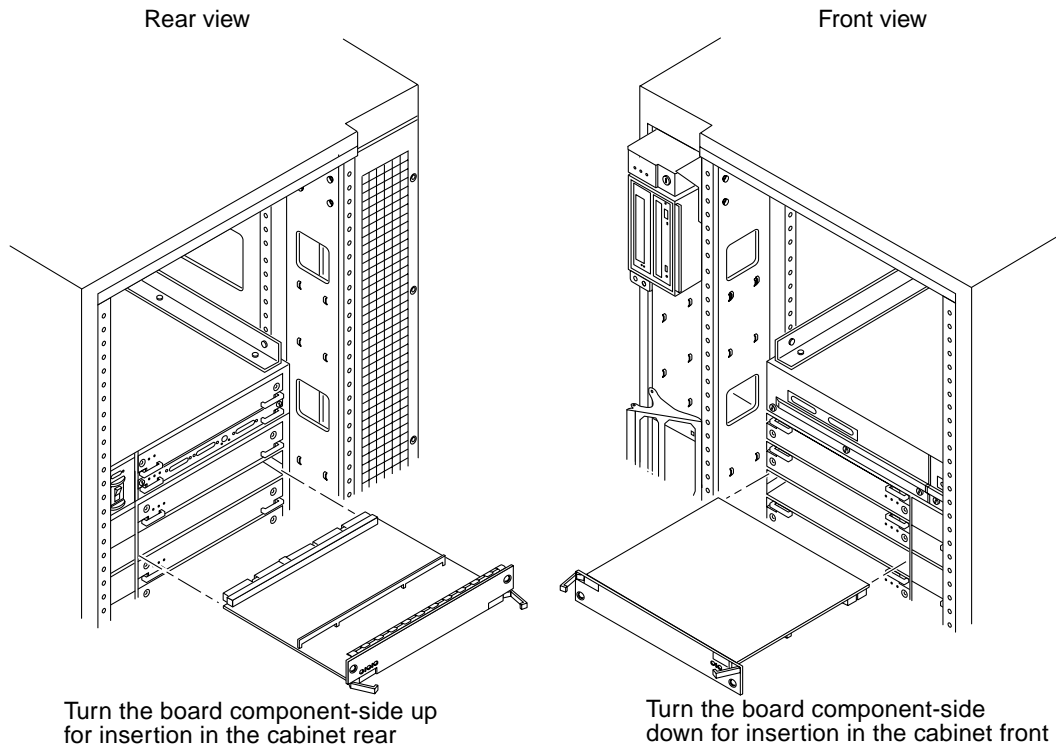

FIGURE 4-11 Board Replacement
For I/O+ boards being placed in the rear of the system, ensure that the component side is up. If the boards are placed in the front of the system, ensure that the component side is down (FIGURE 4-11).
1. Carefully insert the board (component side down if in front; component side up if in the rear) in the proper slot in the card cage, ensuring that the board does not slip out of the left and right card guides (FIGURE 4-11).